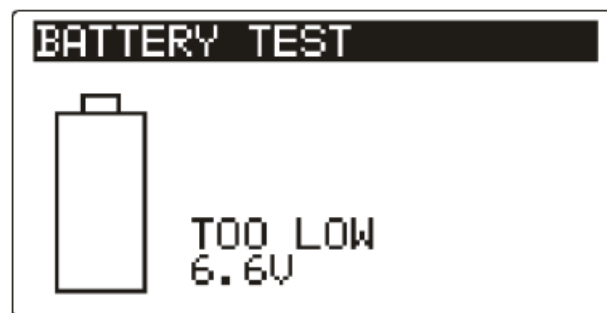

Figure 2-1: Discharged battery indication
- In case the battery is too weak the instrument indicates this as shown in Figure 2.1. This indication appears for a few seconds and then the instrument turns itself off.